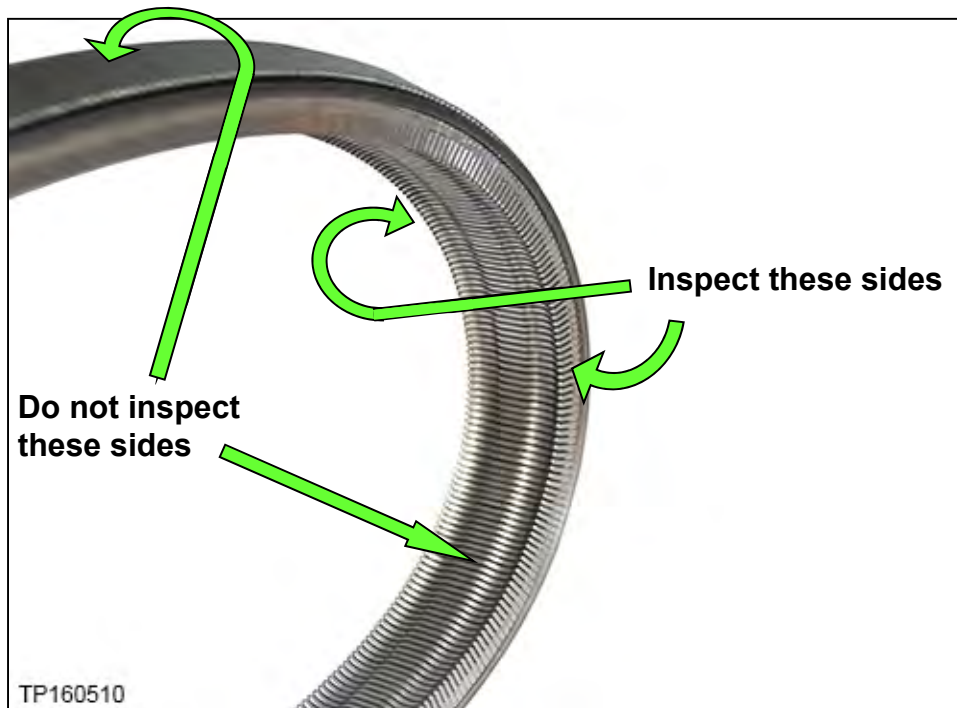

Figure 15
6. Using borescope J-51951 with mirror attachment, inspect the entirety of the two sides of the belt that come in contact with the pulleys (see page 12, Figure 15).